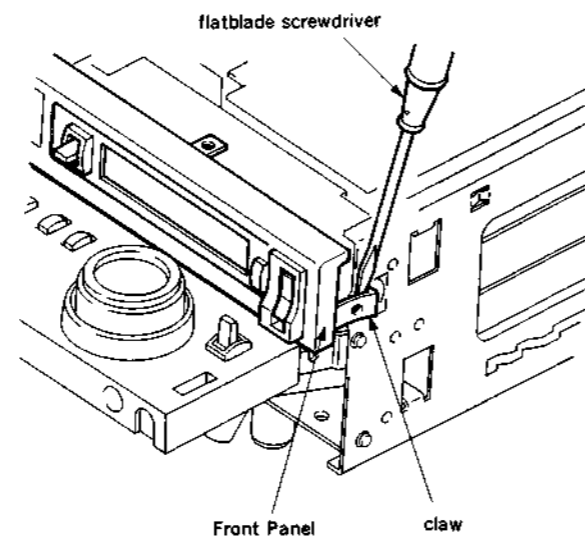

Fig. 1
2. Remove the Front Panel, while releasing the each claw of the left and right side. (fig.1)
5. Remove the Reel Motor Ass'y in the direction of the arrow. (fig. 1)